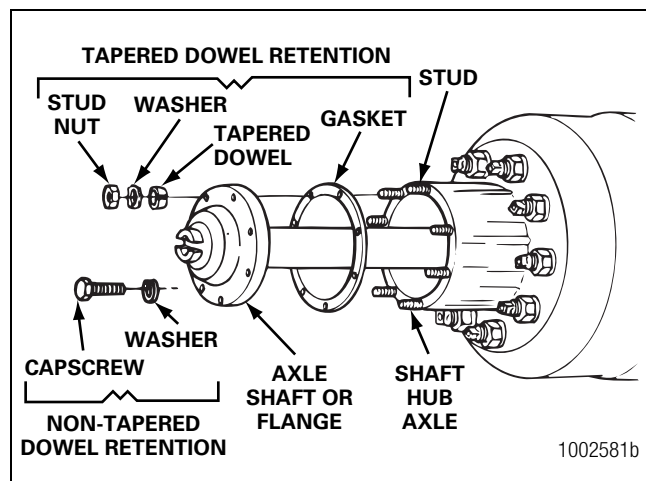

Figure 5.83
- Install the gaskets and axle shafts into the axle housing and carrier. The gasket and flange of the axle shafts must fit flat against the wheel hub. Figure 5.83.
- Install the gasket and the axle shaft into the housing. The gasket and the flange of the axle shaft must fit flat against the wheel hub. Figure 5.83.
3. Install the gasket and the axle shaft into the housing. The gasket and the flange of the axle shaft must fit flat against the wheel hub. Figure 5.83.